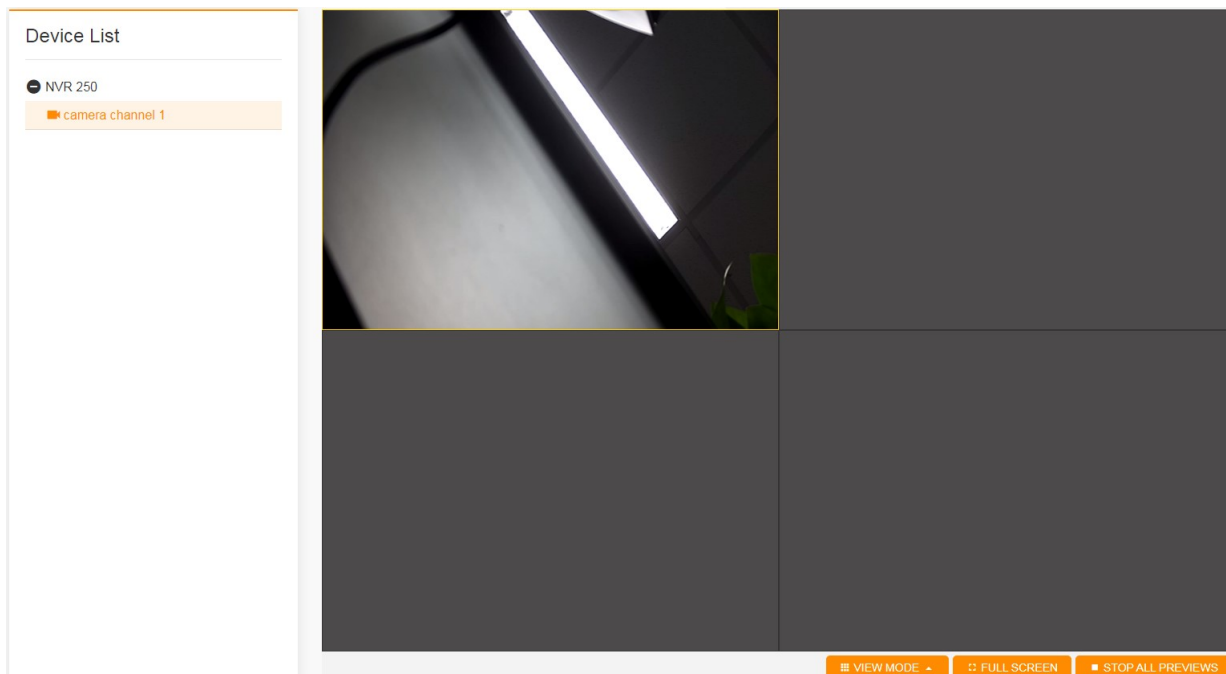

Figure 14-15 Video preview
1. On the right side of the page, select the window for playing the video and click the IPC device in the device list to preview the real-time video of the device, as shown in Figure 14-15.